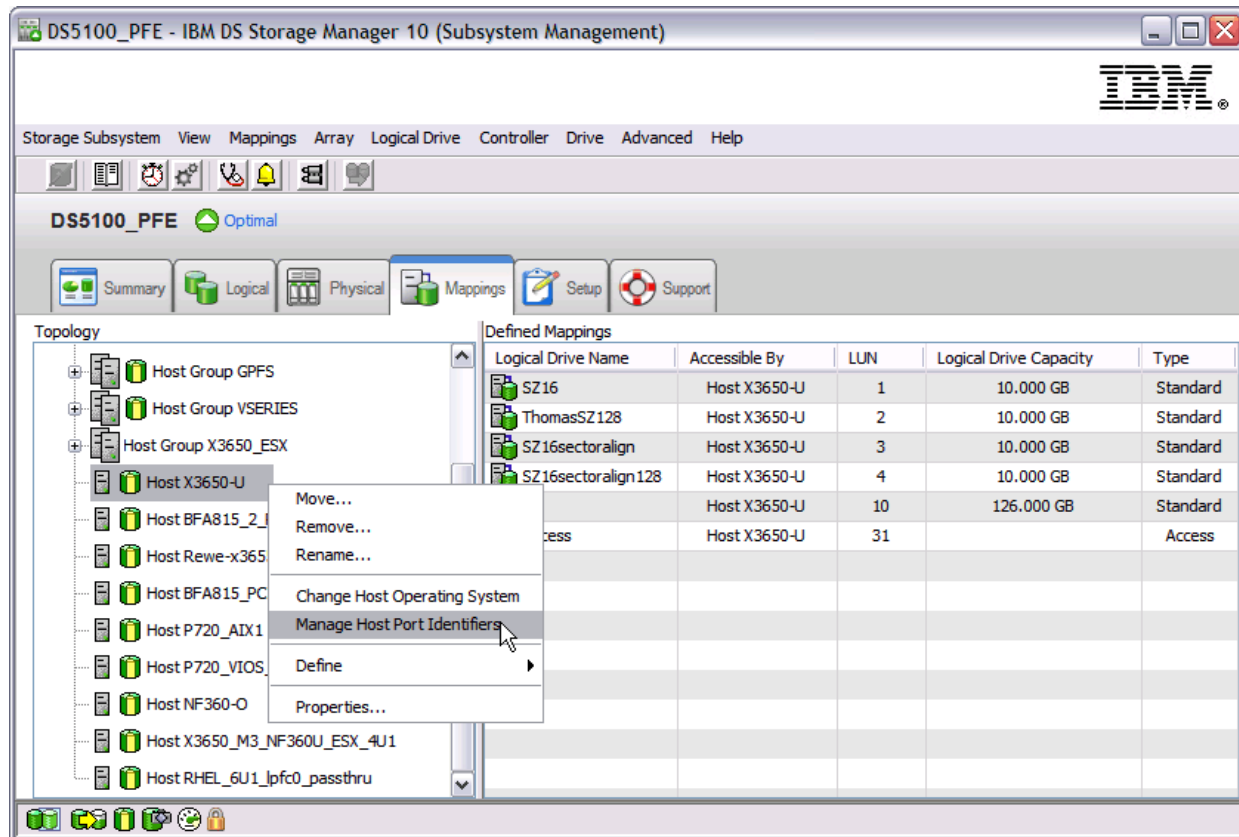

Figure 5-89 Managing host ports
- b. Host properties in the Mappings section by right clicking on host and selecting **Manage Host Port Identifier...** as shown in Figure 5-89 on page 397.